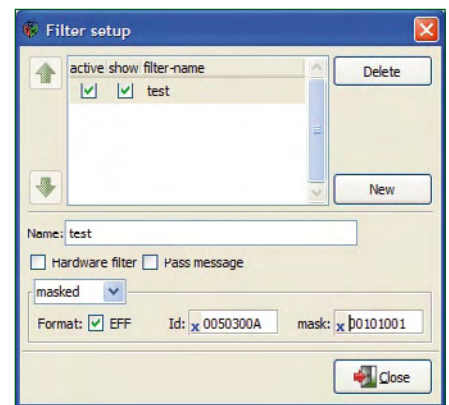

Figure 5. The filter parameters can be easily modified in the filter setup window.
- *masked*: the Id is filtered using a mask. Only those bits that have a '1' in the mask field (see **Figure 5**) are compared. The values of the other bits in the received message are ignored.